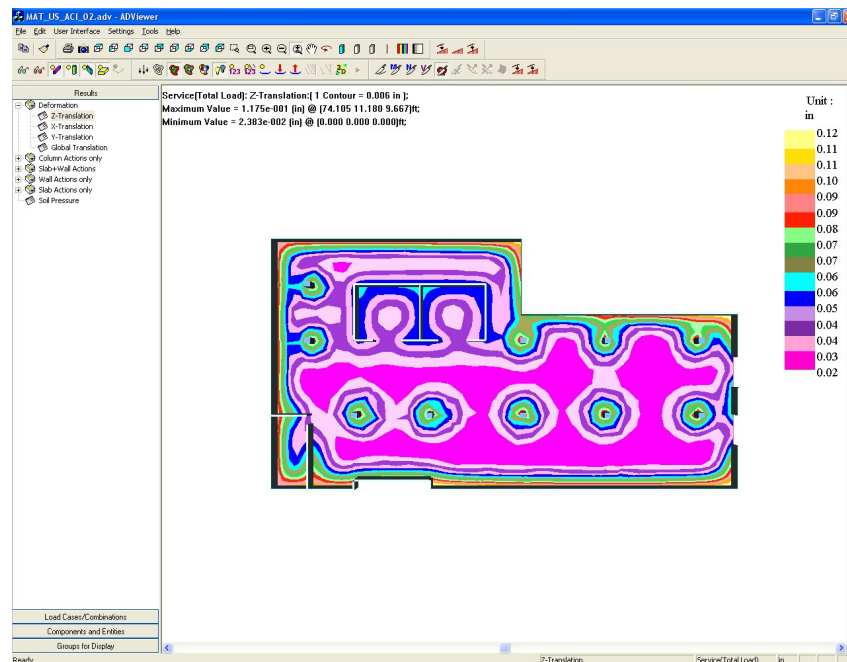

FIGURE 6.6-5 DISPLAY SCREEN OF FEM SOLUTIONS
- Click on the button **Display Results**  icon. This will display the color contour for displacement as shown in **Figure 6.6-5**.